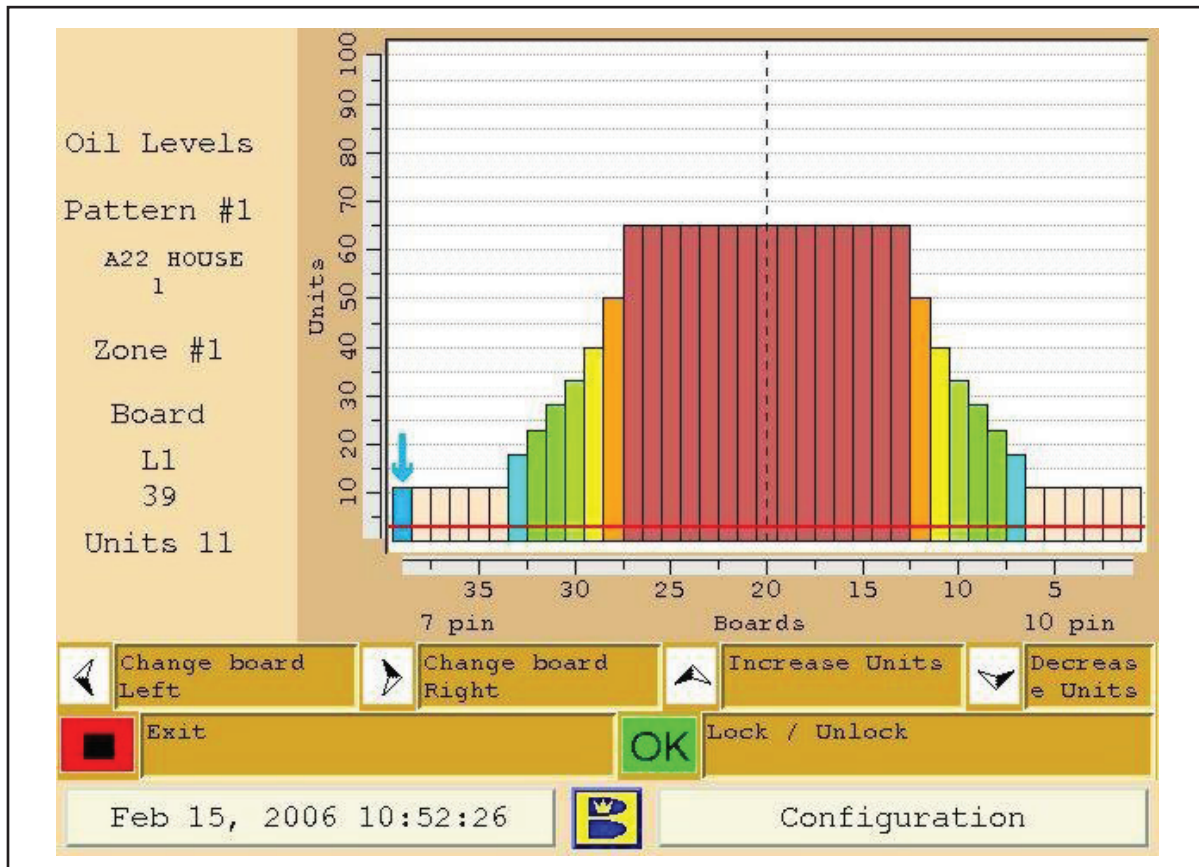

Figure 8-4. Oil Levels
The oil levels screen allows you to create the shape and levels of the conditioner pattern in units of oil. Minimum and maximum levels range from 0 to 100 units. To create the proper lengthwise taper of a pattern, oil levels, from zone to zone, should decrease between 15% and 30%. This is the same for sport and recreational patterns. The percent decrease from zone to zone depends on the starting oil level in the first zone. If the first zone conditioner level is lower (60 units or less) the percentage decrease in the following zones will be smaller and if the first zone conditioner level is higher (above 60 units), the percentage of decrease is higher. The last zone or buff zone should have 1 to 3 units set in the oil level screen on at least one board. This allows the machine to buff the remaining zone of the pattern, in both directions, without injecting conditioner and enhance the lengthwise taper. Set all boards for zero (0) and the machine will buff the last zone in the forward direction of travel only. This increases the lengthwise taper even more. Refer to Figure 8-4.